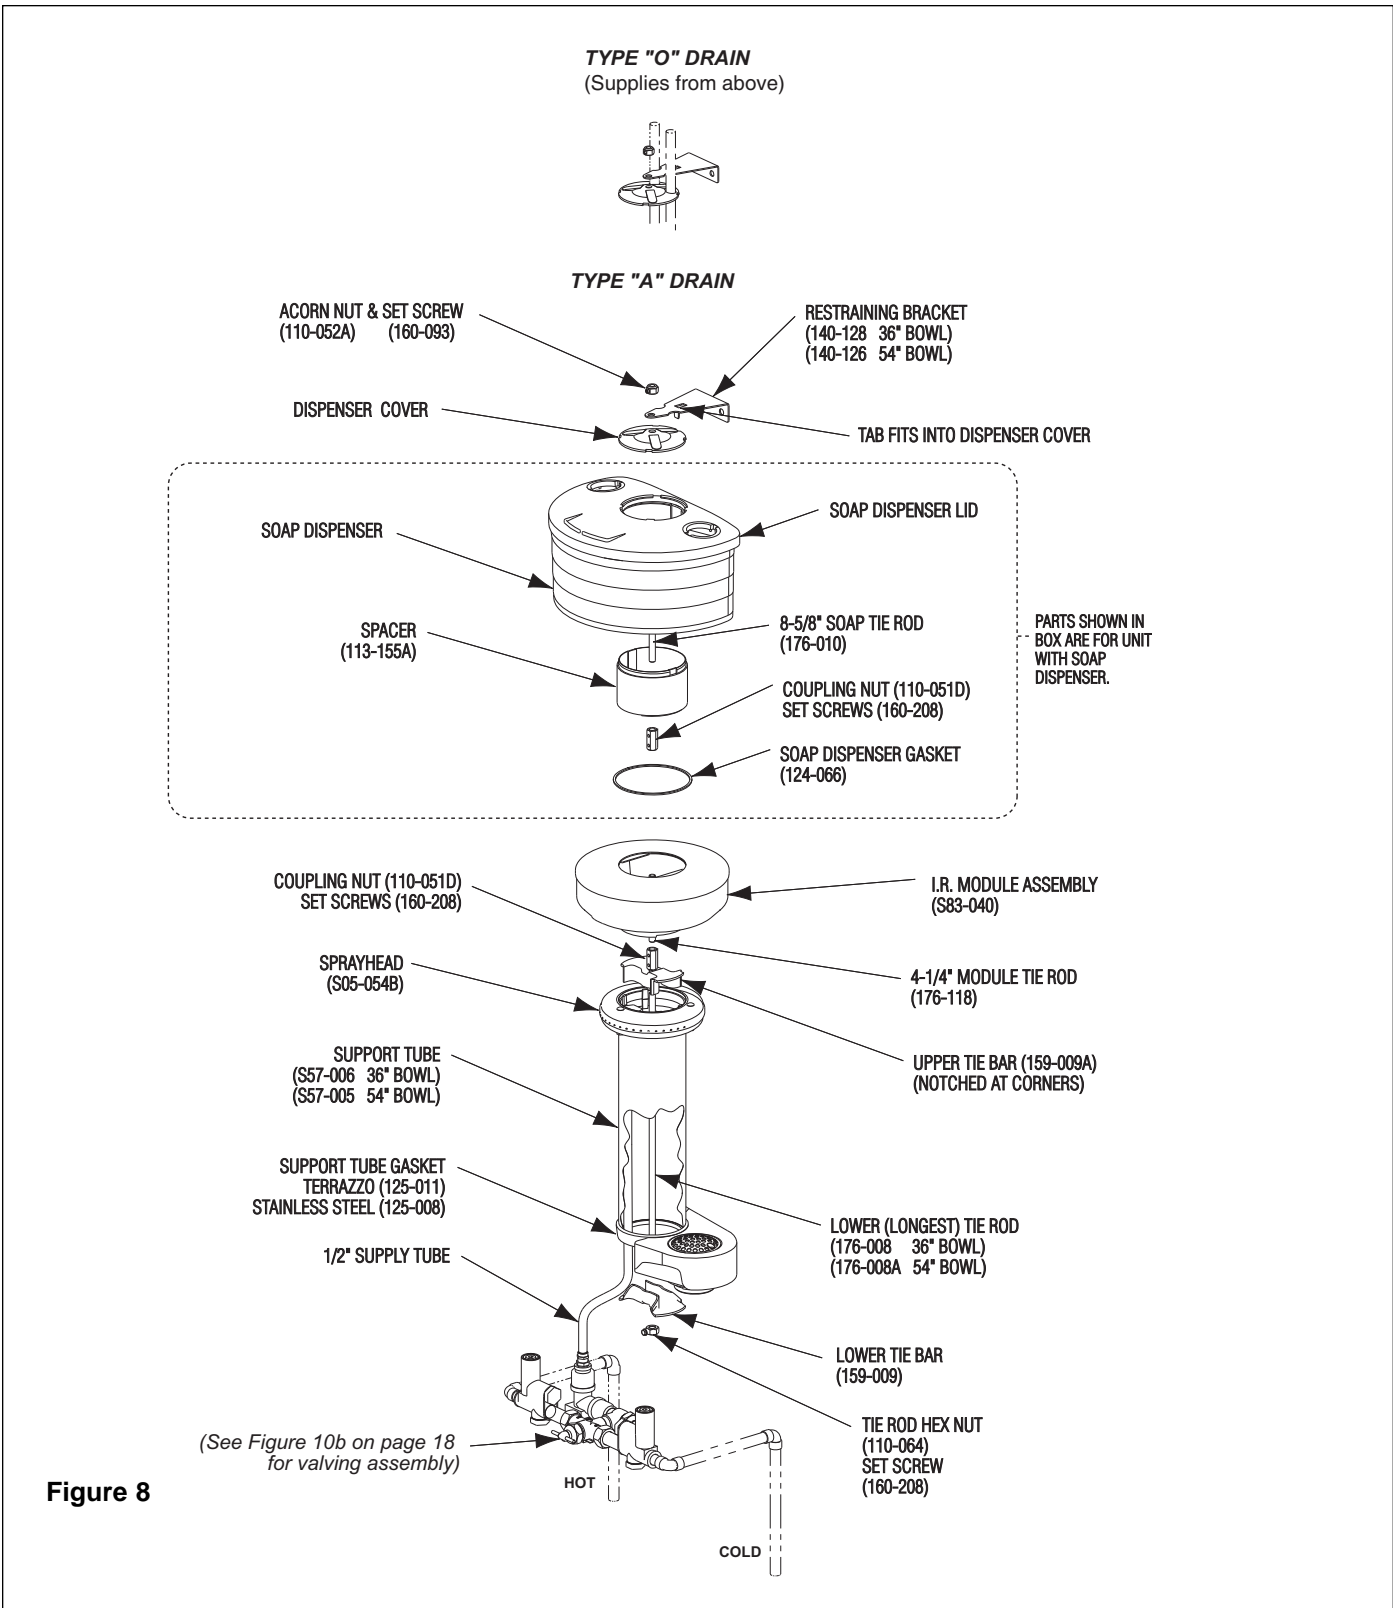
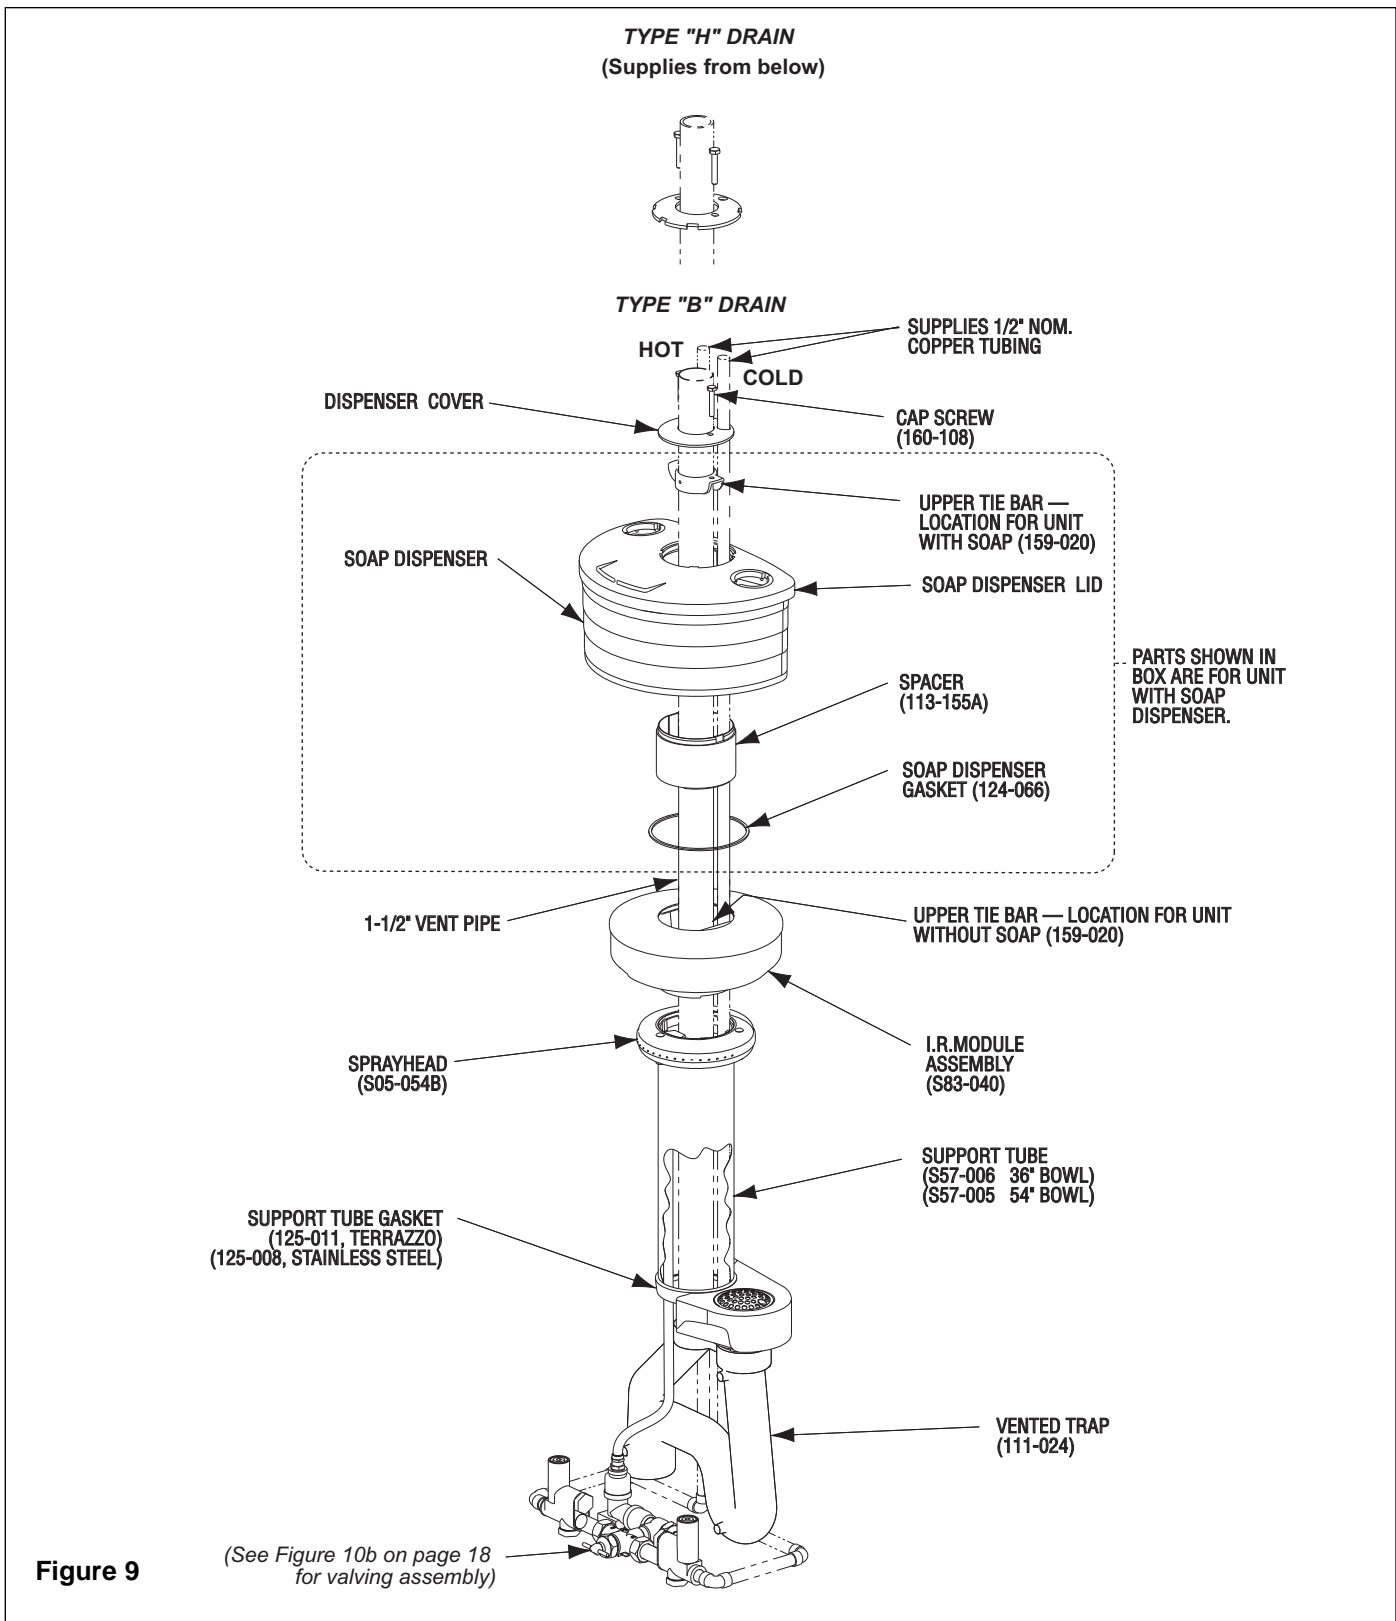

Figure 8
Figure 9
1. Install hemmed end (not sharp end) of support tube (welded seam toward wall) with gasket onto bowl as shown in Figure 8 on page 14.
3. Place sprayhead with 1/2" tubing onto support tube as shown in Figure 8. Run tubing down through support tube. *Make sure spray holes point away from the wall.*
4. Assemble the lower tie rod (the longer threaded rod), upper tie bar (notched at corners), lower tie bar, tie rod nut, and coupling nut, then attach the 4-1/4" tie rod to coupling nut as shown in Figure 8. Upper tie bar must be parallel to wall.
- 6a. **FOR UNITS WITH SOAP OPTION:** Install the soap dispenser gasket, spacer, soap dispenser and dispenser cover and restraining bracket using the coupling nut, third tie rod (8-5/8" long) and second coupling nut as shown in Figure 8. Secure with acorn nut and socket head set screw. The tab on the restraining bracket should fit in a notch in the dispenser cover. See Figure 8.
- 6b. **FOR UNITS WITHOUT SOAP OPTION:** Secure infrared module cover, dispenser cover and restraining bracket with acorn nut and socket head set screw. The tab on the restraining bracket should fit in a notch in the dispenser cover. See Figure 8.
1. Install hemmed end (not sharp end) of support tube (welded seam toward wall) with gasket onto bowl as shown in Figure 9 on page 16.
3. Place sprayhead with 1/2" tubing onto support tube as shown in Figure 9. Run tubing down through support tube. *Make sure spray holes point away from the wall.*
- 8a. **FOR UNITS WITH SOAP OPTION:** Place the soap dispenser gasket, spacer, soap dispenser and cover in position on top of IR module (see Figure 9). Slide tie bar over 1-1/2" vent pipe 1/2" below top of soap dispenser lid and secure with set screws (tie bar must be parallel to wall). Slide the dispenser cover over 1-1/2" vent pipe and secure with two screws included with tie bar.
NOTE: Refer to Figure 8 on page 14 for installation of unit with Type A or O drain. Refer to Figure 9 on page 16 for installation of unit with Type B or H drain.